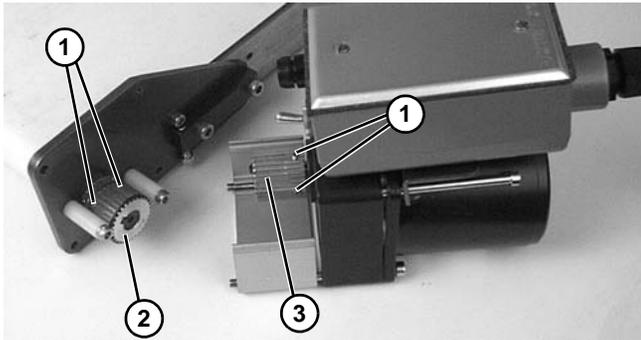

Figure 14
2. Loosen set screws (**Figure 14, item 1**) and remove driven pulley (**Figure 14, item 2**) or drive pulley (**Figure 14, item 3**).